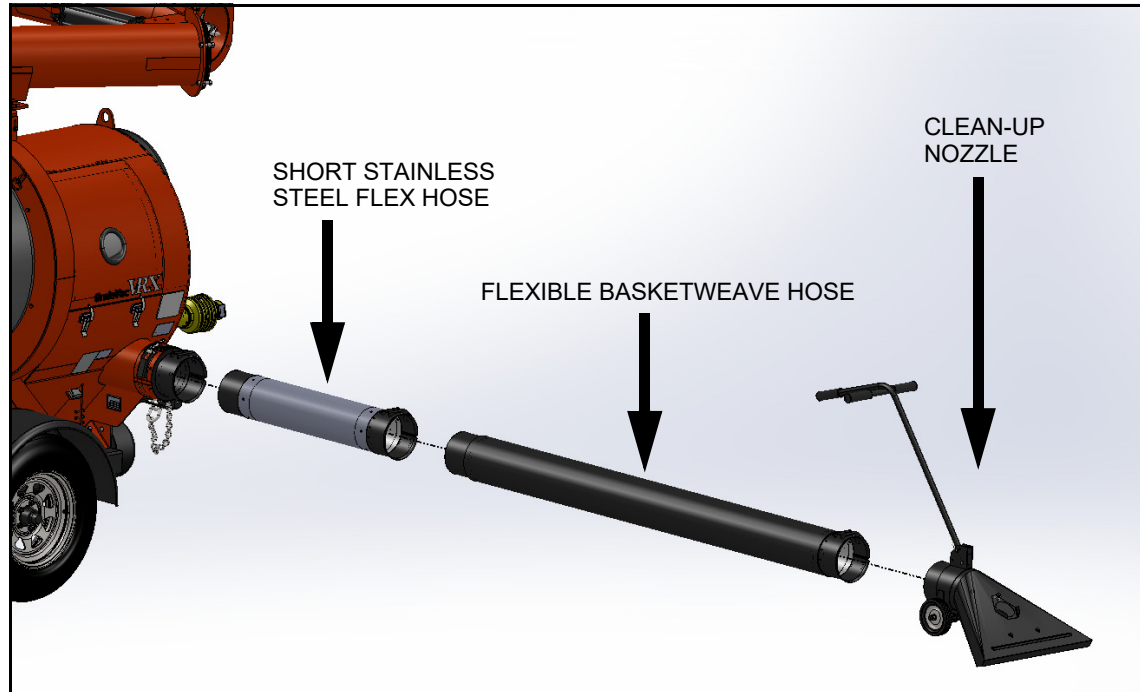

Figure 4.14 Clean-Up Nozzle and Flexible Basketweave Hose
16. To assist in final clean-up of the remainder of the grain, remove the standing floor sweep and attach the clean-up nozzle to the rubber/durathane (basketweave) hose (see Figure 4.14).